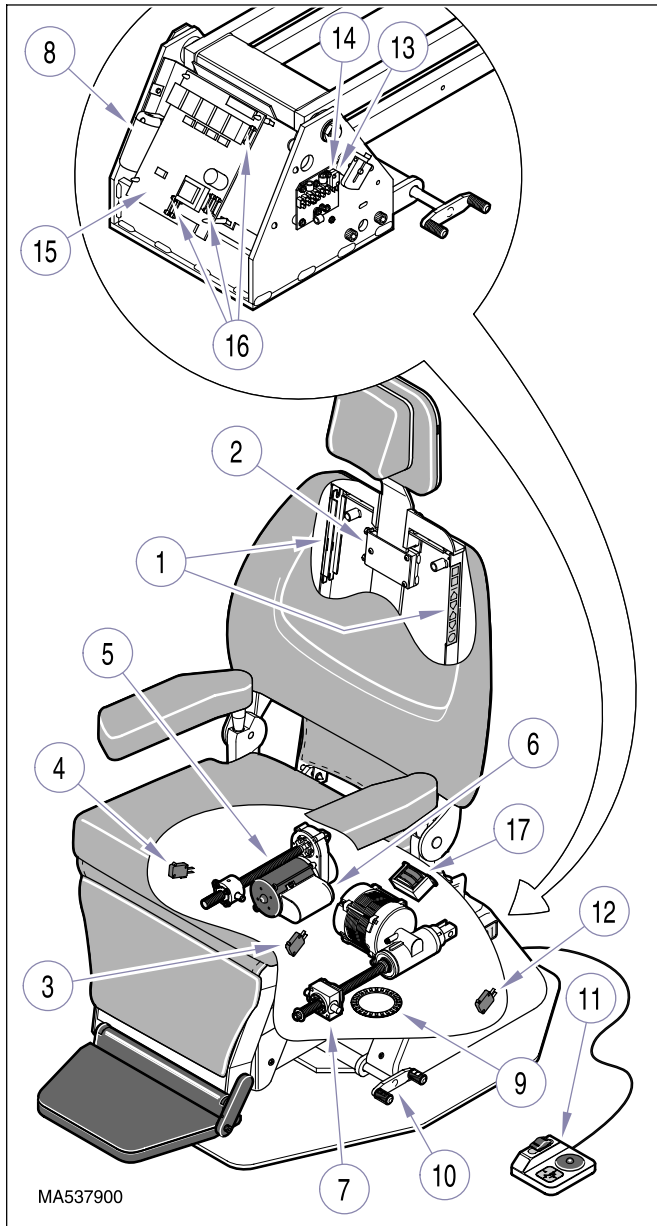

Figure 1-1. Major Components
A. General Description (See Figure 1-1).
B. Major Serviceable Components (See Figure 1-1).